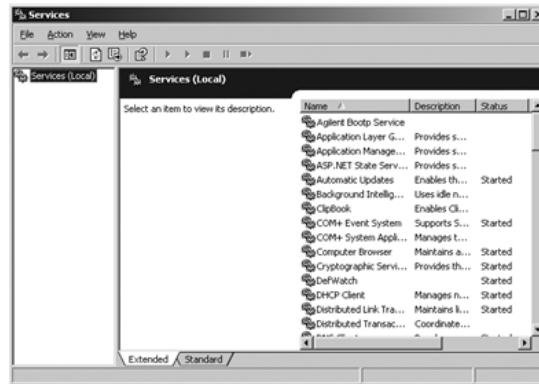

Figure 40 Windows Services screen
- 1 In the Windows control panel, select **Administrative Tools > Services**. The **Services** screen appears, see Figure 40 on page 262.